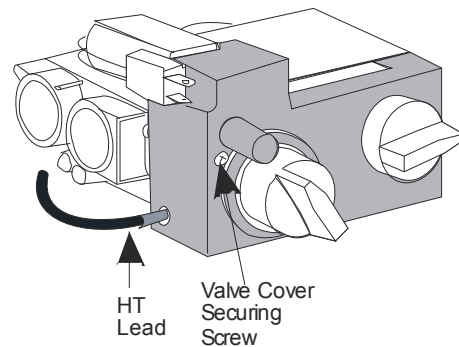

Figure 85
3. Remove the valve cover securing screw (see **Figure 85**).